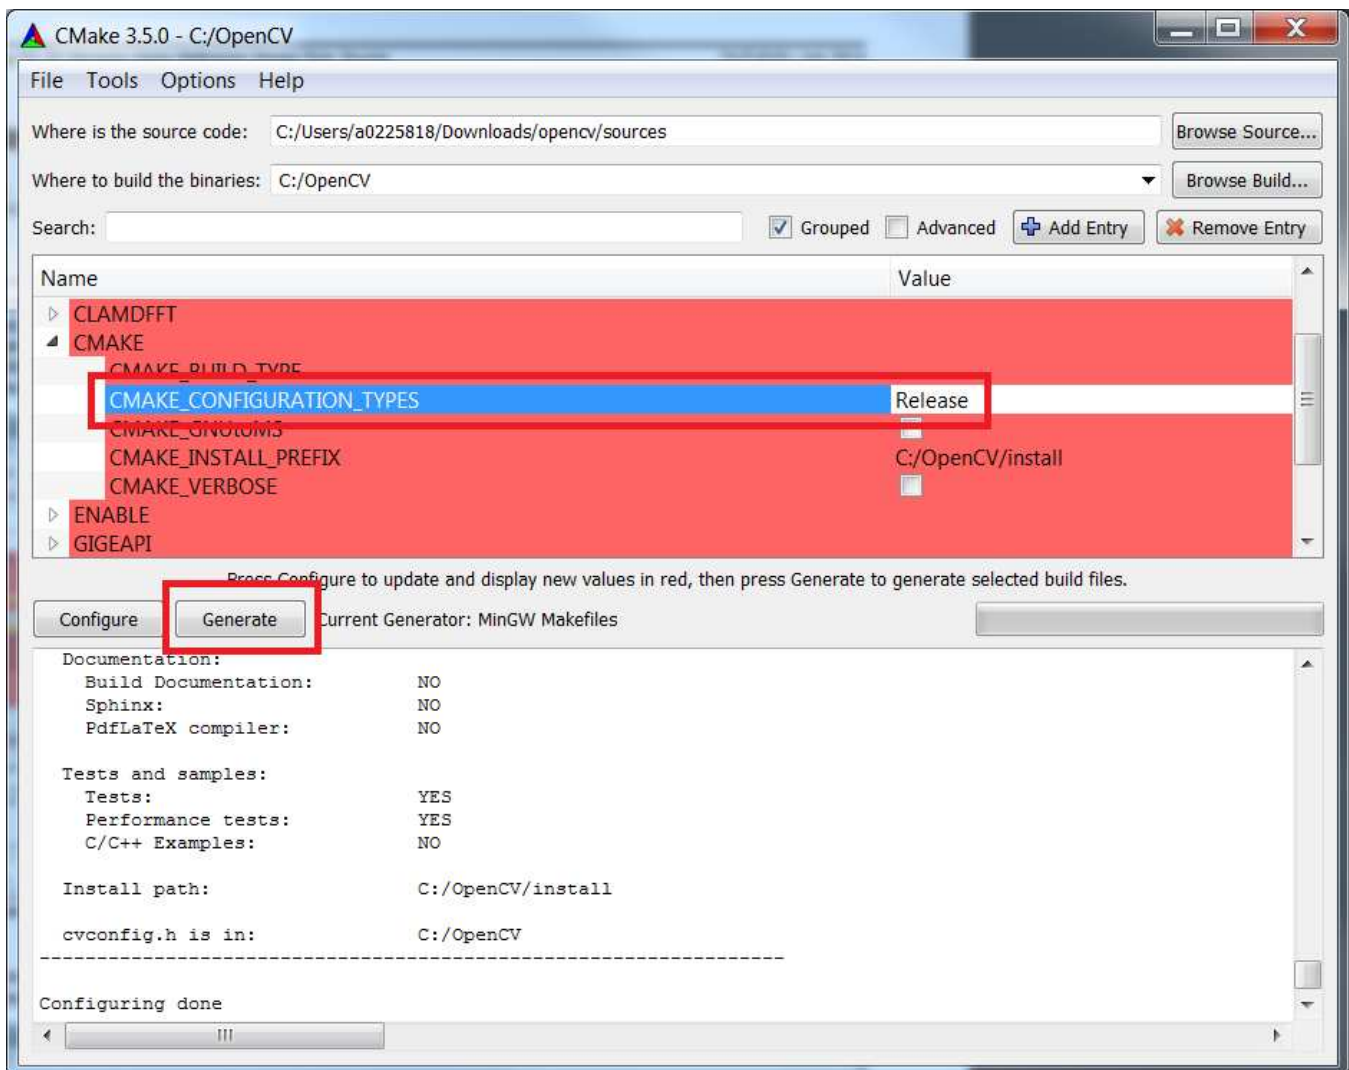

Figure 34. Change Configuration Type to Release
11. Find CMAKE_CONFIGURATION_TYPES as shown in Figure 34. Type "Release" into that space. Click on the "Generate" button. Allow CMake to run and finish generating the files. There should be no errors.